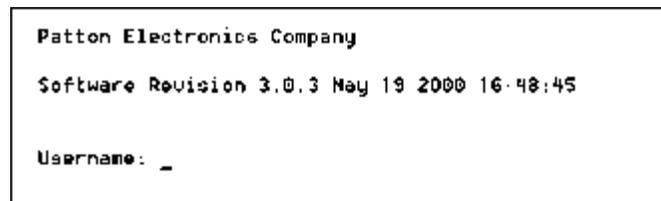

Figure 16. Login window
- On your HyperTerminal connection window, boot up information will display, eventually followed by a login request window resembling that shown in figure 16.